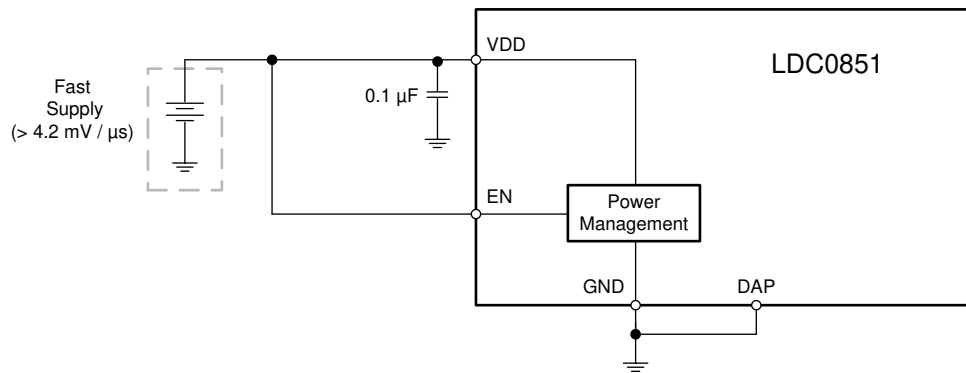

图 7-8. Supply Connections for Fast Ramp Rate
A 0.1  $\mu\text{F}$  capacitor should be used to bypass VDD. If multiple bypass capacitors are used in the system, then the smallest value capacitor should be placed as close as possible to the VDD pin. A ground plane is recommended to connect both the ground and the Die Attach Pad (DAP). If the supply ramp rate must be faster than 4.2 mV/ $\mu\text{s}$  the enable pin (EN) may be tied directly to VDD as shown in 图 7-8.